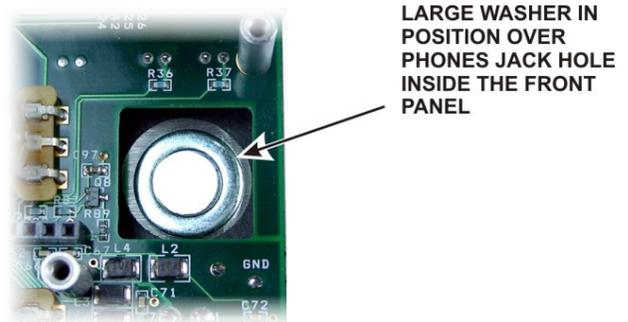

Figure 9. Phones Jack Washer
□ A large, thick spacer washer should be lying on the front panel near the hole for the phones jack (see Figure 9). This spacer fits between the phones jack and the back of the front panel board to provide a solid mechanical ground connection when the boards are in place. Remove the washer and set it aside. If it's lying on the inside of the front panel you can tip the panel so it will slide out at the end.
- Position the large flat washer on the inside of the front panel over the PHONES jack hole (see Figure 9 on page 9). This is easily done by sliding the washer into place from the end of the front panel.